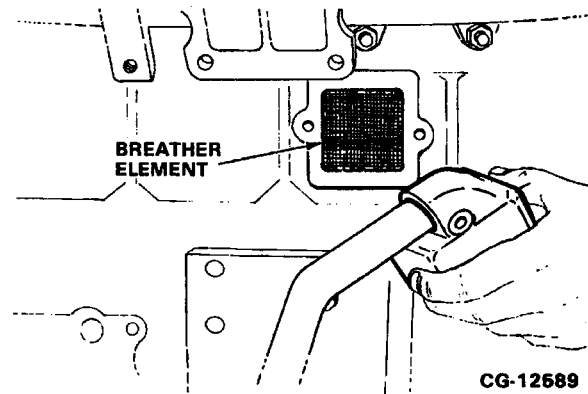

Figure 7.30. Install Breather Element
2. Install a new breather element into the breather baffle. Refer to Figure 7.30.